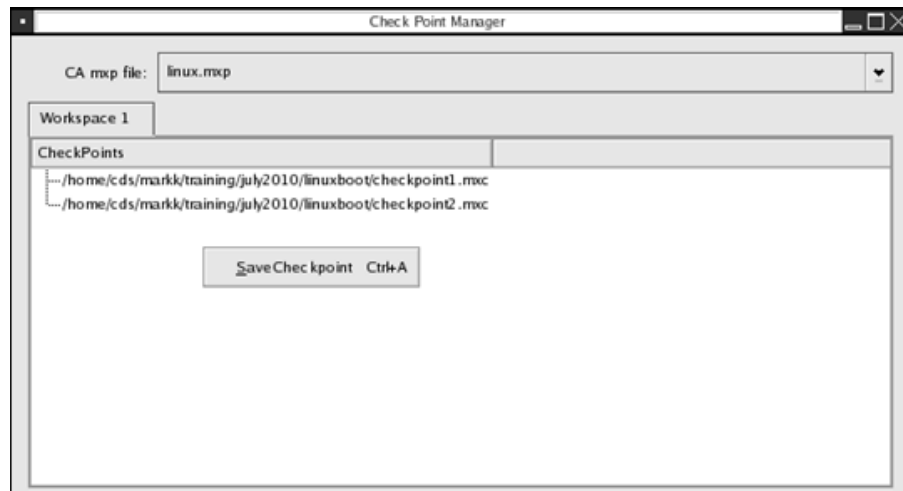

Figure 4-18 Save Checkpoint context menu
3. From the context menu, select **Save Checkpoint** (Figure 4-18).